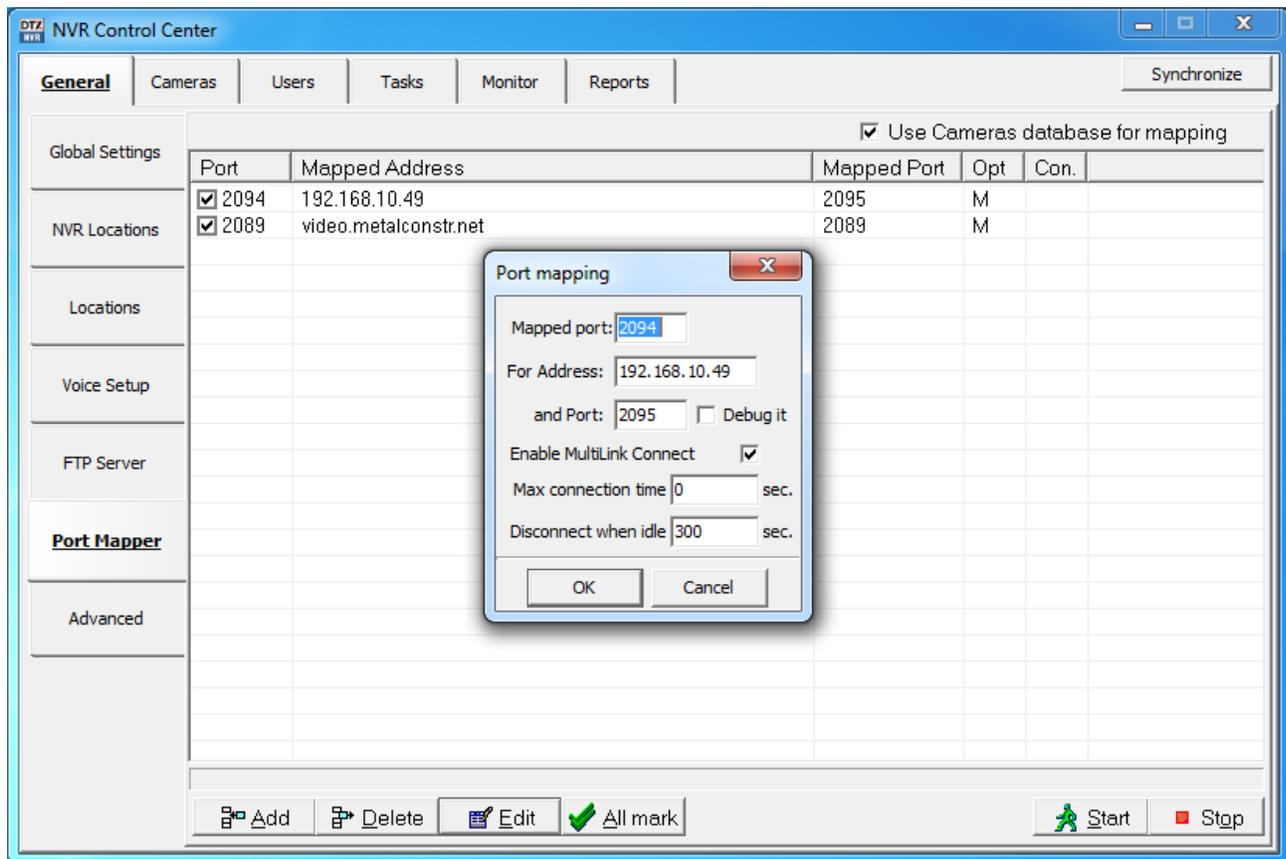

Fig 3. NVR Control Center — General — Port Mapper (Port mapping from the NVR Control Center).
- The “Port Mapper” tab is added to allow port mapping from the NVR Control Center (see Fig 3). Cameras database can be used to ease the mapping.